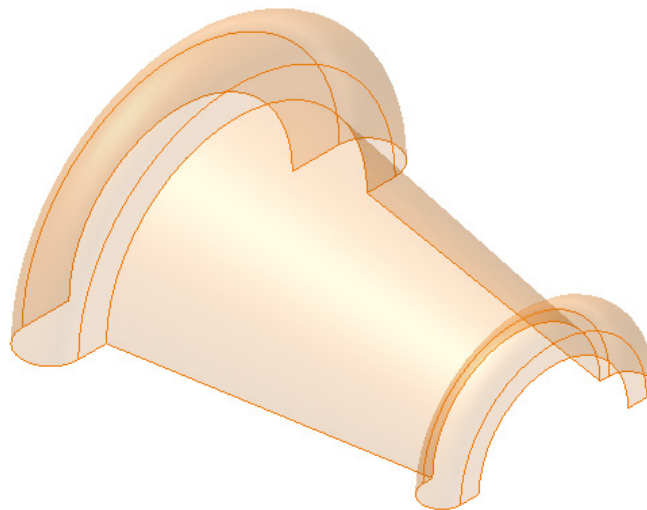

Figure 18-53 Base surface
- b. Revolve this sketch through an angle of 180-degree so that the final output is a surface, refer to Figure 18-53.
6. Select **Angle** from the drop-down list in the **Extents** area and set the value of the angle to 180 degrees. Next, choose **OK**; the base surface is created, as shown in Figure 18-53.